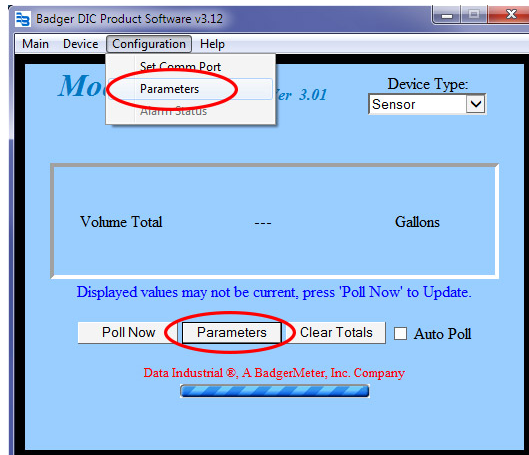

Figure 19: Select Parameters
6. Select **Configuration > Parameters** to open the *Parameters* screen. You can also select the **Parameters** button. See *Figure 19*.